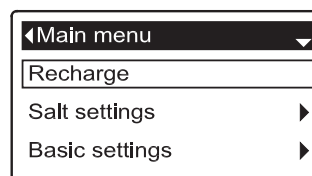

FIG. 16
During normal operation (status screens rolling), press the conditioner/refiner's SELECT (O) button to display the Main menu (See Figure 16). This menu and its subsidiary screens are used to control these operations: